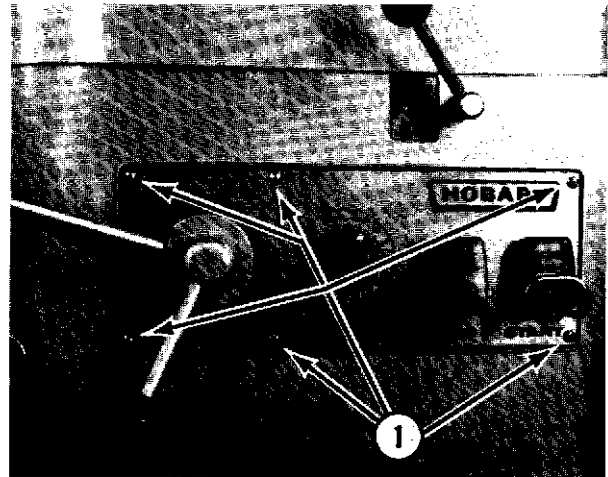

Fig. 8-4
- H. Remove the six switch plate mounting screws (1, Fig. 8-4).